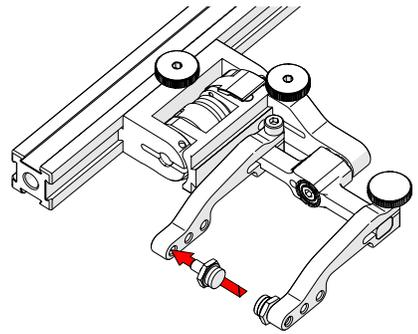

Fig. 151 - Place pivot buttons
4. Using the supplied 3/8 in wrench, place the pivot buttons (Fig. 151) farthest from the yoke for maximum wedge clearance.